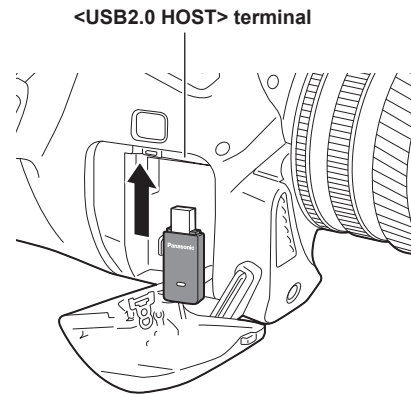

Fig. 2
- 2** Connect the wireless module to the <USB2.0 HOST> terminal. (Fig. 2)